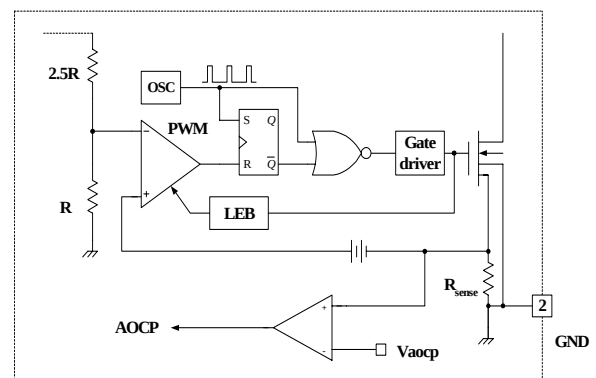

Figure 8. AOCB block
**3.2 Abnormal Over Current Protection (AOCB) :** Even though the FPSTM has OLP (Over Load Protection) and current mode PWM feedback, these are not enough to protect the FPSTM when a secondary side diode short or a transformer pin short occurs. The FPSTM has an internal AOCB (Abnormal Over Current Protection) circuit as shown in figure 8. When the gate turn-on signal is applied to the power Sense FET, the AOCB block is enabled and monitors the current through the sensing resistor. The voltage across the resistor is then compared with a preset AOCB level. If the sensing resistor voltage is greater than the AOCB level for longer than 300ns, the reset signal is applied to the latch, resulting in the shutdown of SMPS.